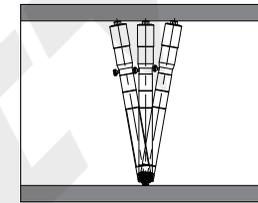

Fig.3
3. During measurement, make sure there are no cutting chips or other debris on both measuring faces and workpiece surface which will affect the result. Rotate friction thimble to set its size less than the hole's diameter, and then put micrometer into the hole. Put fixed measuring face to contact the measured hole, rotate friction thimble slowly, shake micrometer gently along hole's axial and radial to find the minimum value in axial direction(Fig.3) and the maximum value in radial direction(Fig.4), tighten the locking screw, take out micrometer to get the result.